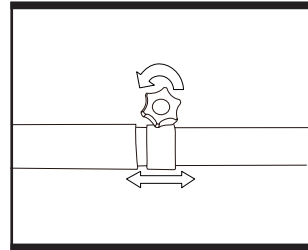

Fig. 2b
- d). Adjust the position of the upper securing clip loosening the fixation knob anticlockwise and sliding it into required position. (See Fig. 2b)
- e). To allow safe and comfortable use, the lower shaft should be adjusted so that the upper and lower Harness Securing Clips (6) are approximately the same width as the user's shoulders.